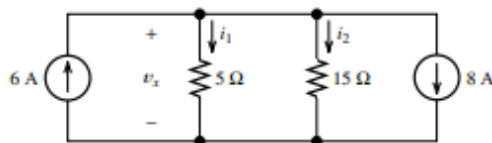

Figure P2.24
***P2.24.** Find the values of i_1 and i_2 in Figure P2.24. Find the power for each element in the circuit, and state whether each is absorbing or delivering energy. Verify that the total power absorbed equals the total power delivered.